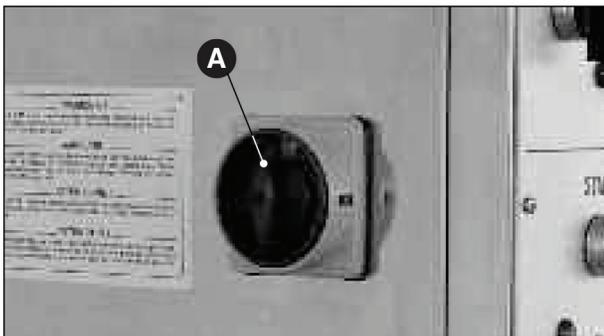

Fig. 1
- Position the main switch on “0” (Fig.1 A) and check the correct set-up of the archimedean screw, making sure that the cylinder part is sustained by the dragging shaft.
- Turn off the machine pressing the general switch (Fig.1 A).